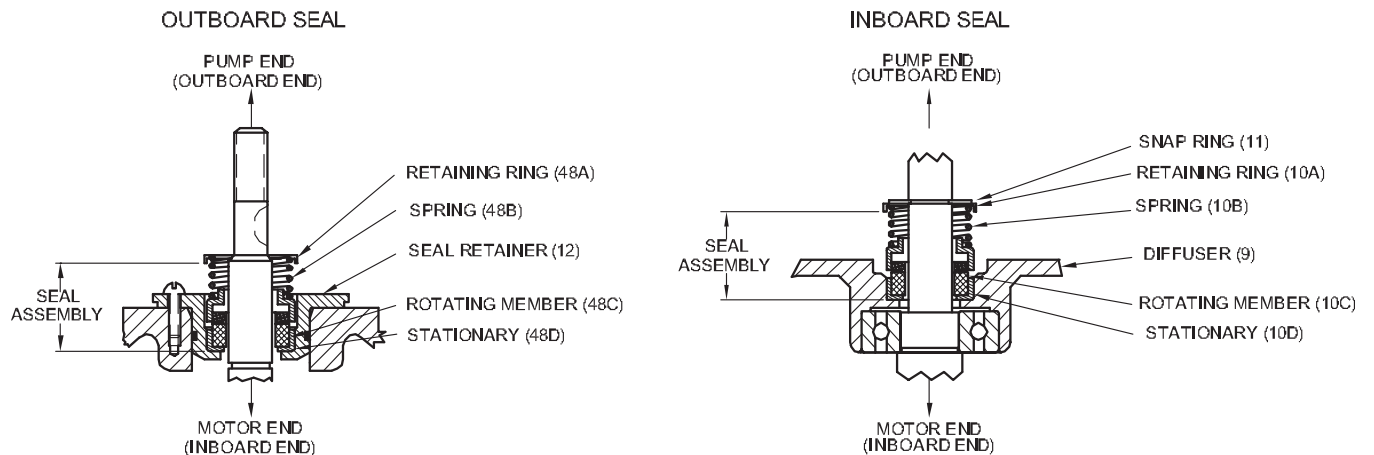

FIGURE 8
To replace outer shaft seal, drain oil per Section F-2.1 and remove impeller per Section F-3. Remove the shim washers (17a) & (17b), impeller key (15), seal retaining ring (48a) seal spring (48b), and seal rotating member (48c) from shaft, See Figure 8.